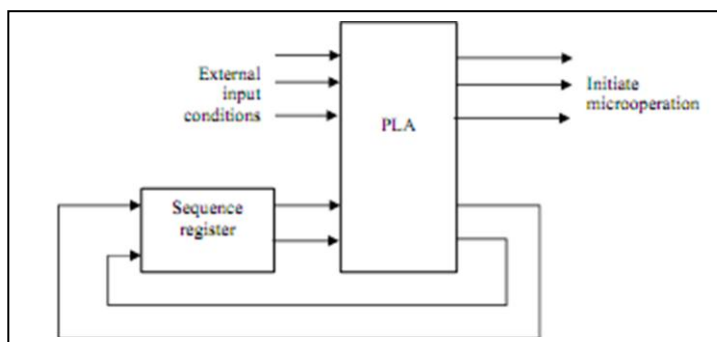

Fig 5.14 PLA control logic
- Figure 5.14 shows the configuration of a PLA controller. An external sequence register establishes the present state of the control circuit.